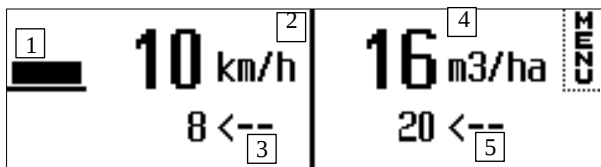

Fig. 4
- From the main working menu, pressing the first button upper left, the screen switches to horizontal layout shown in Fig. 4. The horizontal layout includes a simplified set of information: